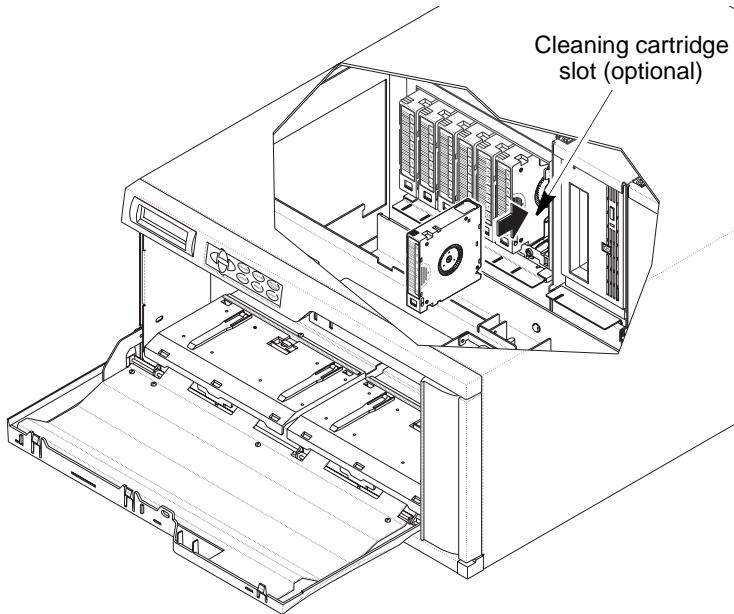

Figure 2-6 *Installing a cleaning cartridge*
4. If you plan to use a cleaning cartridge to clean the tape drive(s), place the cleaning cartridge in the fixed slot closest to the tape drive(s), as shown in Figure 2-6. To use this slot for a cleaning cartridge, you must set the Clean Slot option during library configuration (described on page 44).